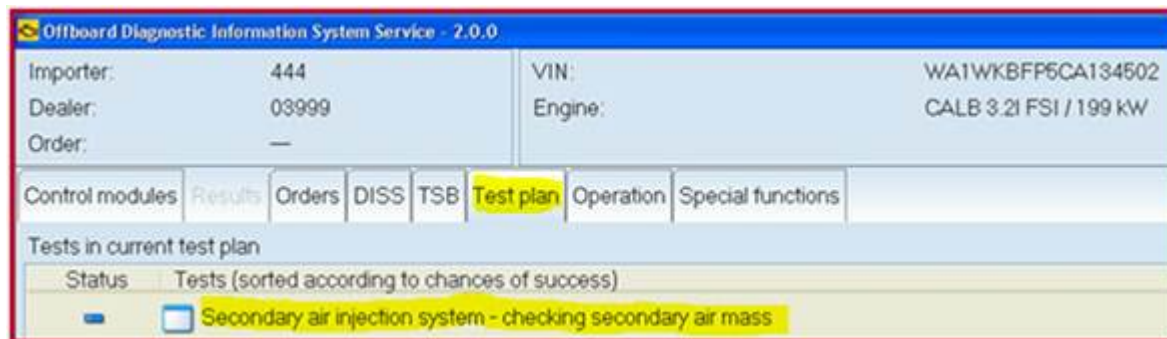

Figure 15. Check the cleaning results.
- Check the cleaning result through the test procedure in ODIS (part of the test plan) by going to *Test plan >> Secondary air injection system - checking secondary air mass* (Figure 15).